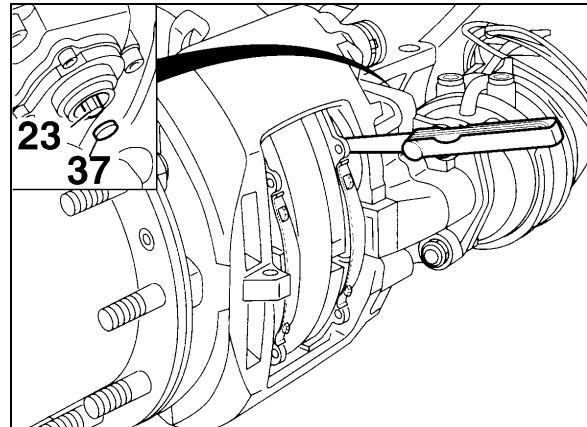

FIGURE 37: RUNNING CLEARANCE 12116
- Insert a feeler gauge 0.028 inch (0.7 mm thickness) between tappet and pad back-plate (Fig. 37). Turn adjuster pinion clockwise until 0.028 inch (0.7 mm) clearance is achieved. Replace cap (37) (Prévost # 641313).
- To ensure a constant running clearance between the rotor and pads, the brake is equipped with an automatic adjuster unit. When the pads and rotor wear, the running clearance between the pads and rotor increases. The adjuster (23, Fig. 37) and turning device turn the threaded tubes by the amount necessary to compensate the wear.